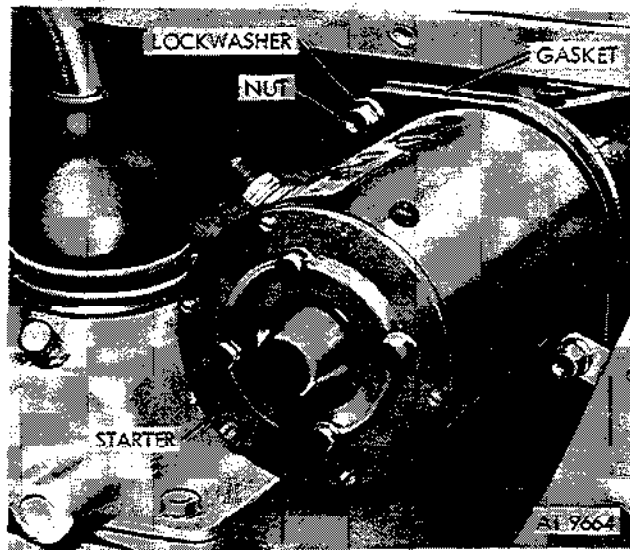

Figure 2-167. Remove starting motor.
(6) Remove two nuts, washers and clip securing starting motor to flywheel housing. Remove starting motor and gasket. Discard gasket (fig. 2-167).
b. *Installation.* Clean starter mounting gasket surfaces on starter and flywheel housing before installing gasket and starter. Install starting motor on vehicle by reversing removal operations. Refer to figures 2-167, 2-166.